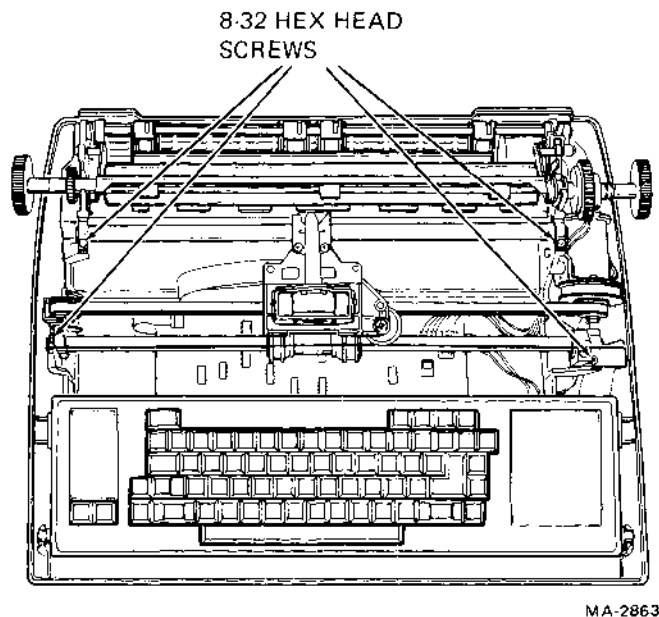

Figure 7-18 Carriage Assembly Removal
6. Remove the rear carriage shaft by removing the two (8-32) hex-head screws at the end of the rear carriage shaft (Figure 7-18).
7. Loosen the two (8-32) hex-head screws at each end of the front carriage shaft (Figure 7-18).